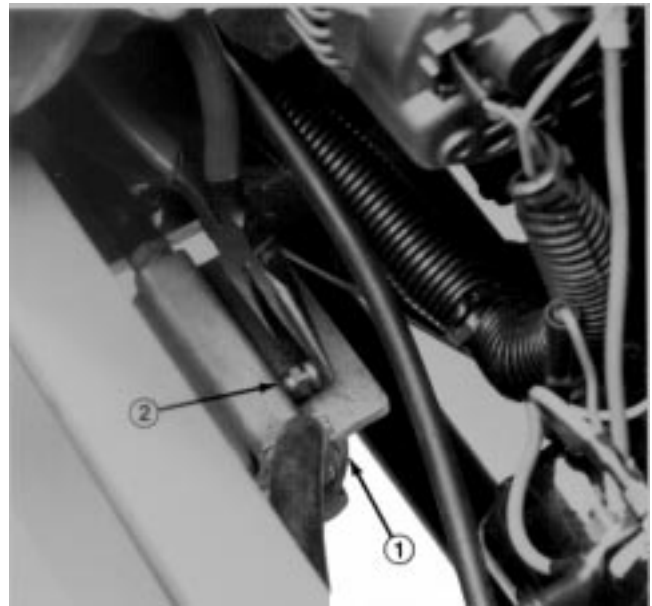

Figure 21
2. Loosen air bleed screw on top of fuel filter/water separator (Fig. 21).